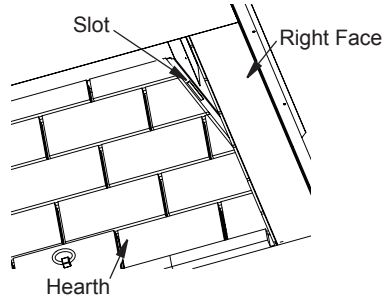

Figure 21 - Slots for Firebrick Walls
2. Install the left and right firebrick walls. There is a bracket with 2 tabs on the bottom of each firebrick wall. Angle the wall into the fireplace opening and into the slots on the side of the hearth (Figure 21), then tilt the top of the panel toward the firebox surround.